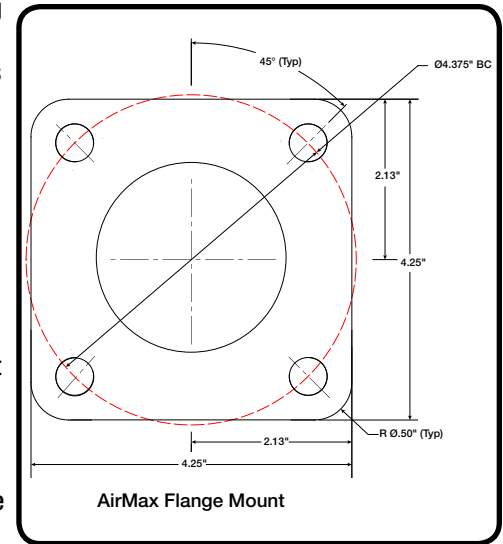

Figure 2
1. Install the AirMax intake relief valve body to the fire pump suction or suction plumbing with the outlet aimed downward. The proper mounting pad for the AirMax is shown in **Figure 2**. This is the typical 4-bolt pattern and flange size found on Hale and Waterous pumps. The relief valve outlet is either 2½" Vic or 2½" MNPT which should have a pipe or hose connected to direct the water discharge to safe location away from the pump operator location. Some trucks are built with additional plumbing on the relief valve outlet to terminate with a hose connection at the side of the truck, allowing for connection of a hose to direct water even further from the apparatus. The relief valve body uses an O-Ring seal (Provided with the product) on the mounting flange.